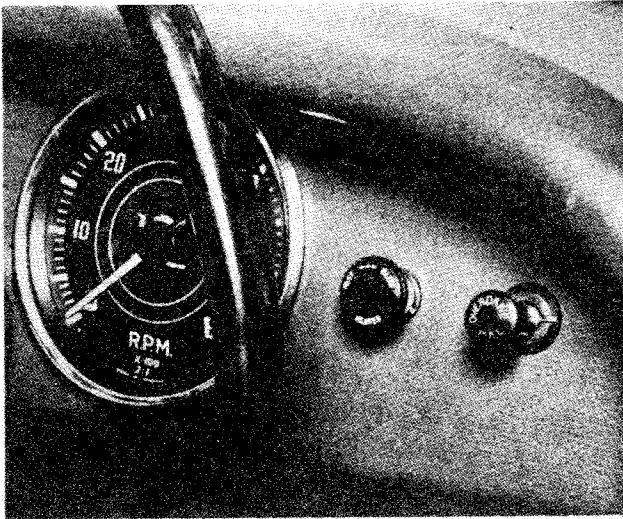

Fig. 11 Showing location of Heater Control Switch.
9. At this point it is advisable to install the electrical control switch (Fig. 11), a hole for which is already provided in the dashboard. For the sake of appearance the hole in the dashboard is covered by trim material until it is required. This covering of trim can easily be cut away with a small sharp blade, after location of the hole with the tip of a finger, its position is approximately 4" from the steering end of the dashboard at a point $2\frac{5}{8}$ " from the lower edge of the dash panel.